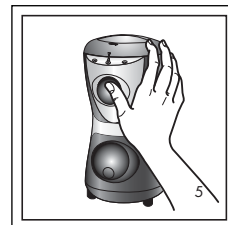

fig.5
- Press the GRIND button to start the coffee grinder (fig. 5) and keep it pressed until the right consistency is obtained.